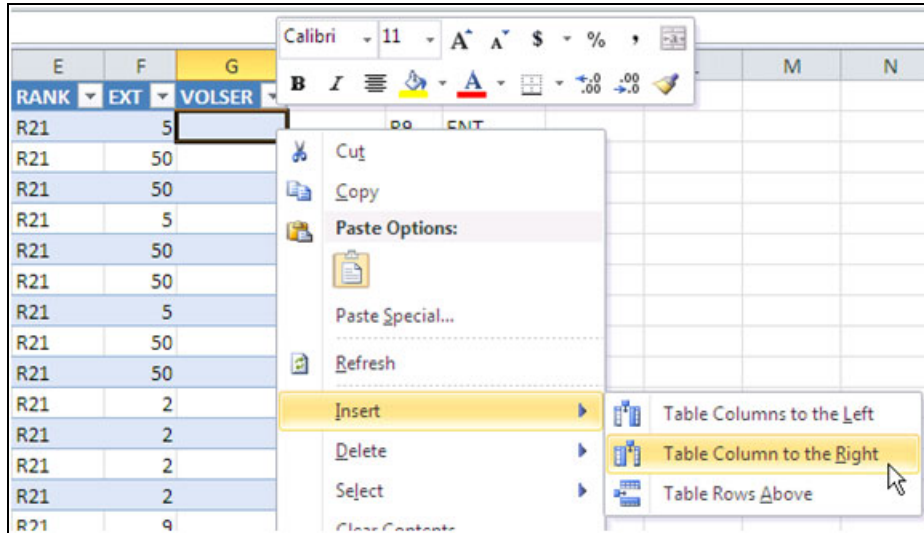

Figure 12 Adding a column to the table
11. The next step is to add a column to the table (Figure 12).